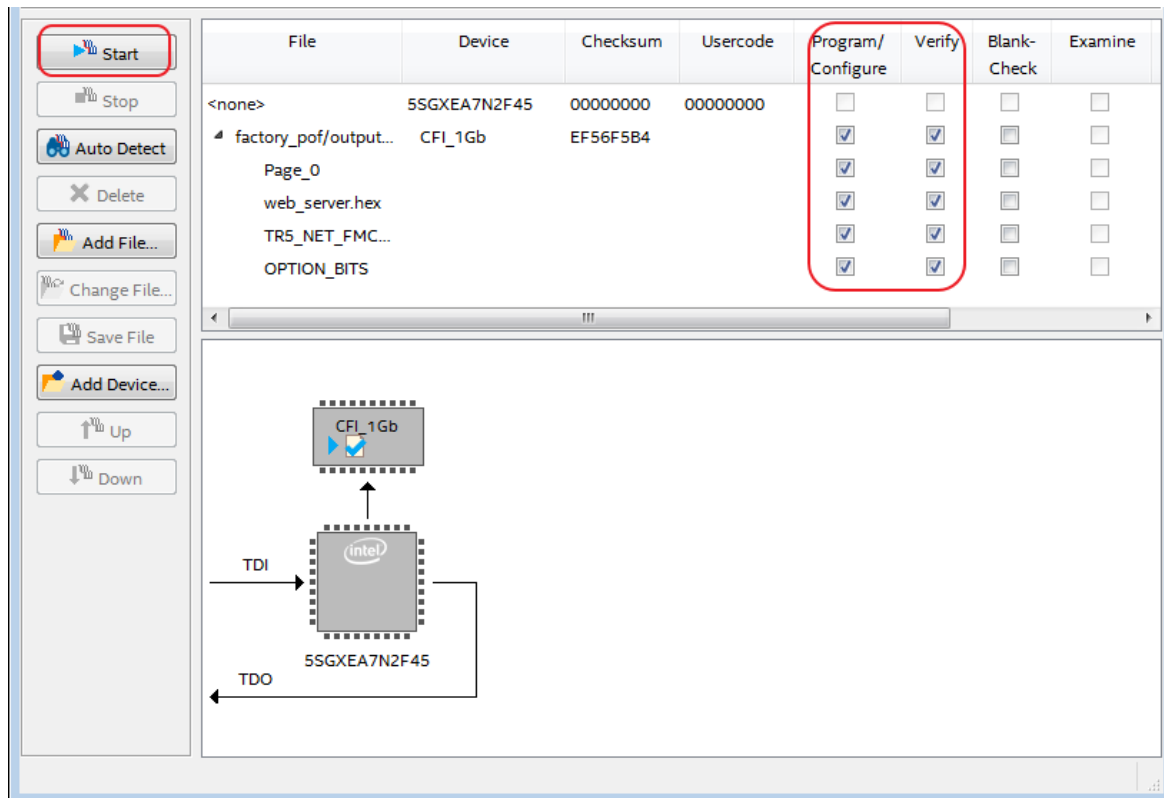

Figure 4-7 Program and Verify Options
- Check all the files Program and Verify option as in **Figure 4-7** and press Start button to write the Flash.